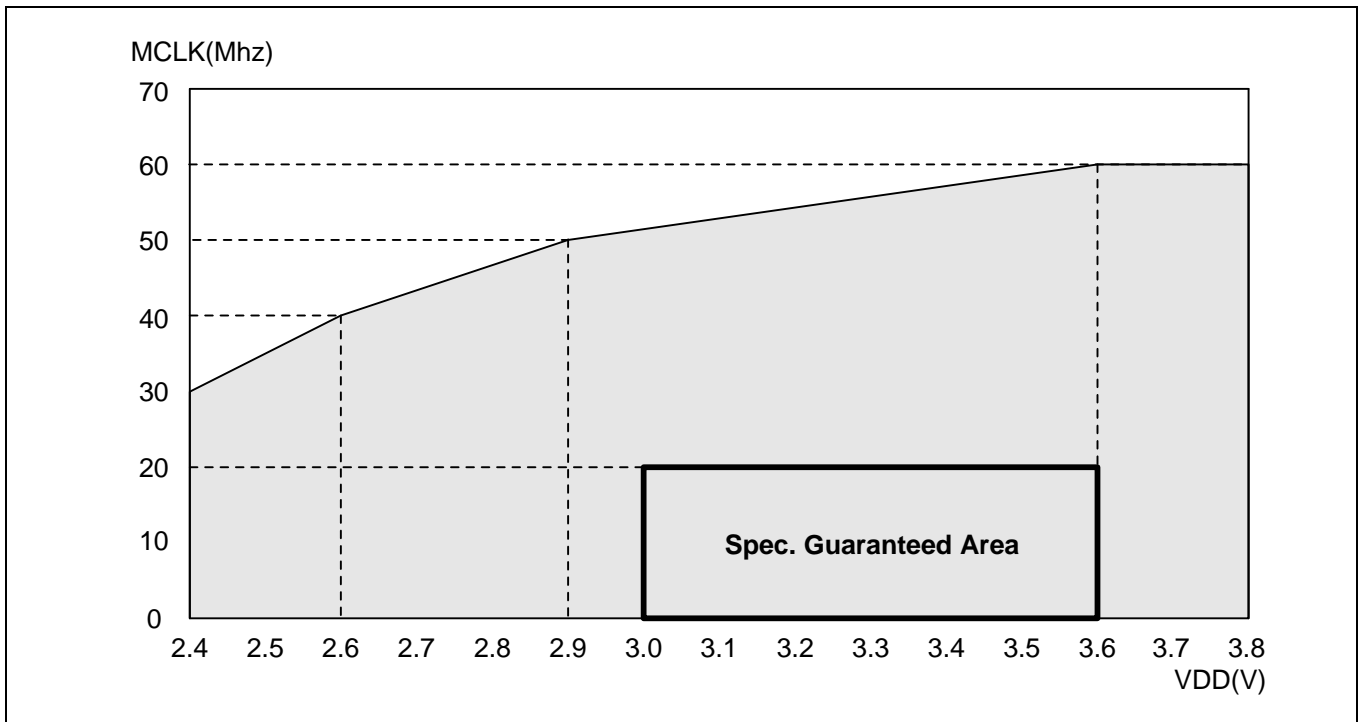

Figure 13-1. Typical Operating Frequency and Voltage Range ( internal flash  $t_{Acc}=1$  )
**NOTE:** In the figure 13-1, MCLK is the simulated waveform for the case of not using PLL. Because the MCLK can't be shown, all the timing diagram should be drawn only for the case that EXTCLK is signaled by an external clock source without using PLL. Also, all the timing diagram are drawn using the EXTCLK instead of MCLK as a reference clock because only the EXTCLK can be shown.